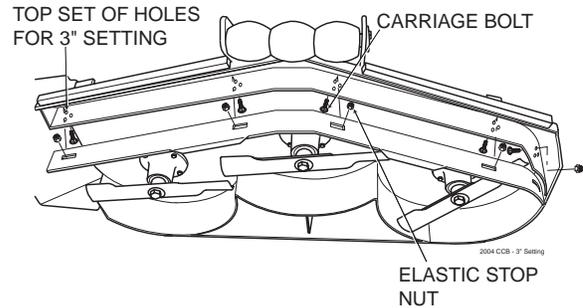

Figure 9. 3" Custom-Cut Baffle Position
- A. 3" Position - baffle is installed using the top set of holes on the front baffle welded inside the cutter deck. (See Figure 9). The Velocity-Plus and Advantage cutter decks will deliver the best quality-of-cut in very tall, wiry, tough to cut grass.
2. Move the Custom-Cut Baffle to desired position. (See Figures 9 through 11 for position).
3. Reinstall the mounting hardware as shown. (See Figures 9 through 11). Torque hardware to 39ft.lbs.